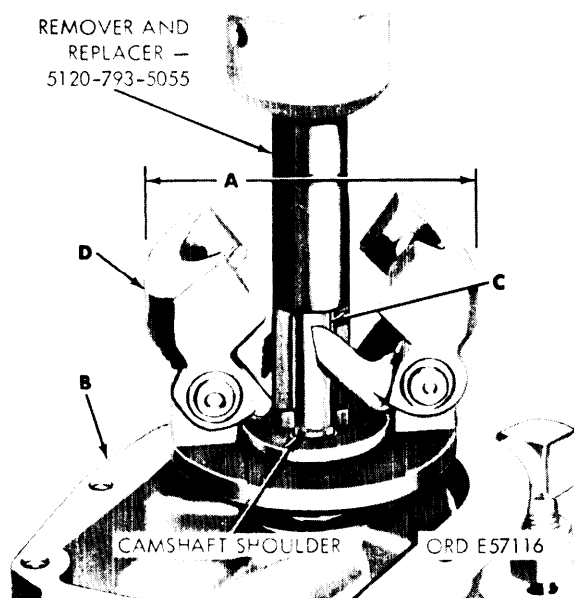

Figure 3-137. Checking extreme open position of governor weight and spider assembly and installing assembly using remover and replacer.
a. Refer to figure 3-137. Before installing, check weight and spider assembly extreme-open position (A). Extreme-open position (A) should not exceed 3.380 inches. If the open position exceeds this limit, replace complete assembly. After completing check, position injection pump housing (B) on an arbor press and position weight and spider assembly (D) on camshaft (C). Position remover and replacer over camshaft and press weight and spider assembly onto camshaft until flush with shoulder.